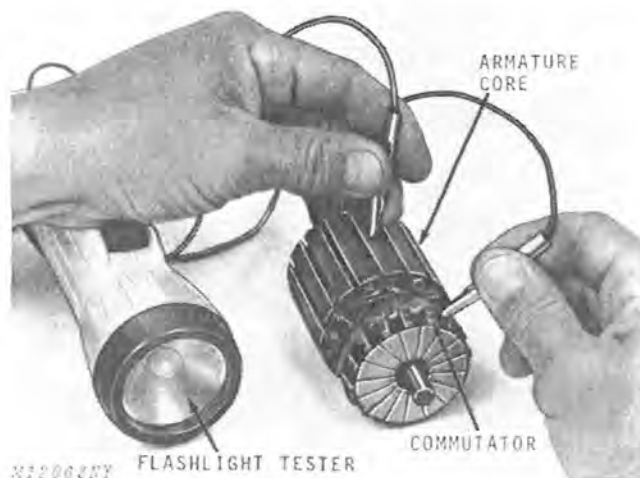

Fig. 10-Checking Armature for Grounds
2. **GROUND** — Grounds in the armature can be detected by use of a test light and prods. If the lamp lights when one test prod is placed on the commutator and the other prod on the armature core or shaft, the armature is grounded, Fig. 10.